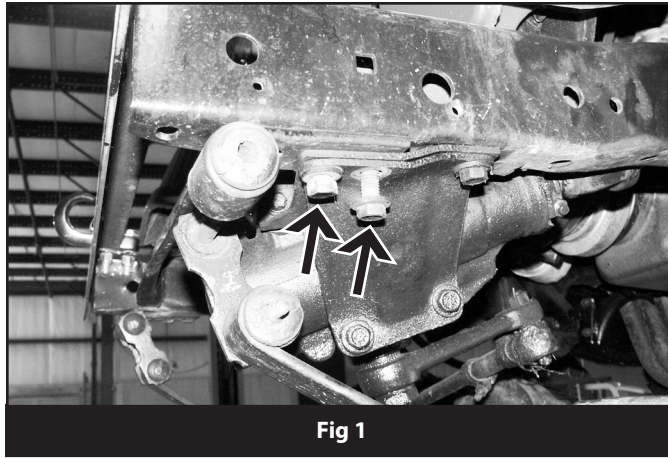

Fig 1
11. Remove the two bolts mounting the front shackle hanger to the frame and remove the hanger. Discard the hanger and hardware. (Fig 1)